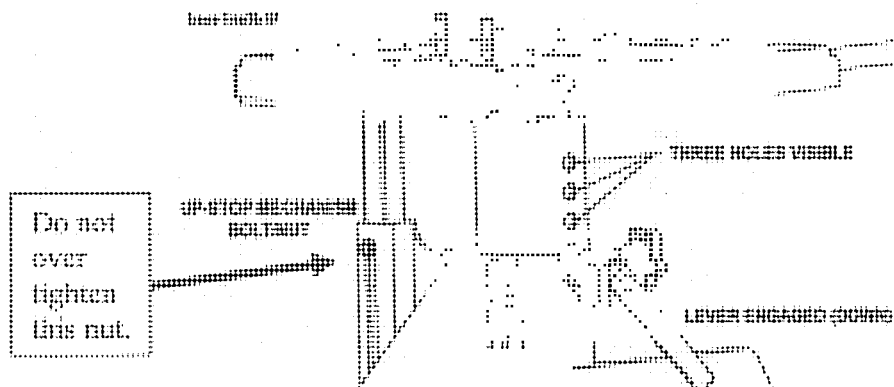

FIGURE 18.
12. Verify that the seat is in its top position (3 holes visible in seat base cylinder). See FIGURE 18. If the seat is equipped with an up-stop mechanism, install the limiting bolt and nut that were removed at the beginning of this procedure. The limiting bolt will prevent the seat from being raised beyond its top position. Do not over tighten the nut, or the seat will not move up and down. Step 12 is not required if proceeding to complete Repair Procedure 3.